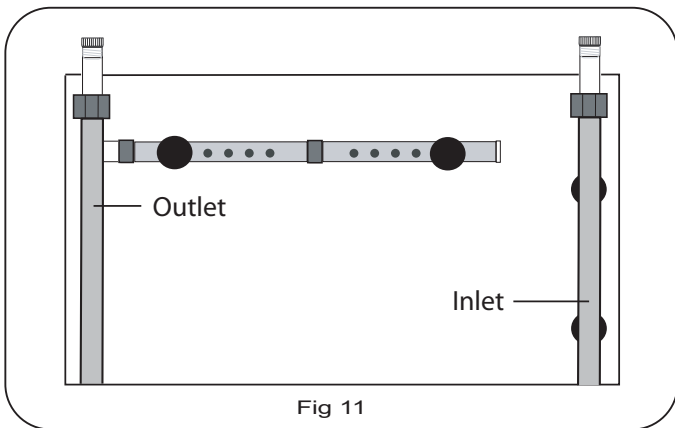

Fig 11
19. Place the Suction caps on the Spray Bar then attach it to the back or side of the aquarium. Fig 11